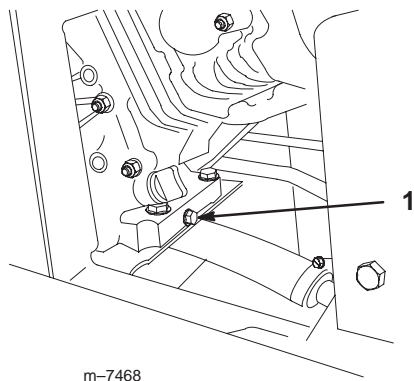

Figure 42
4. Remove the drain plug (Fig. 42).